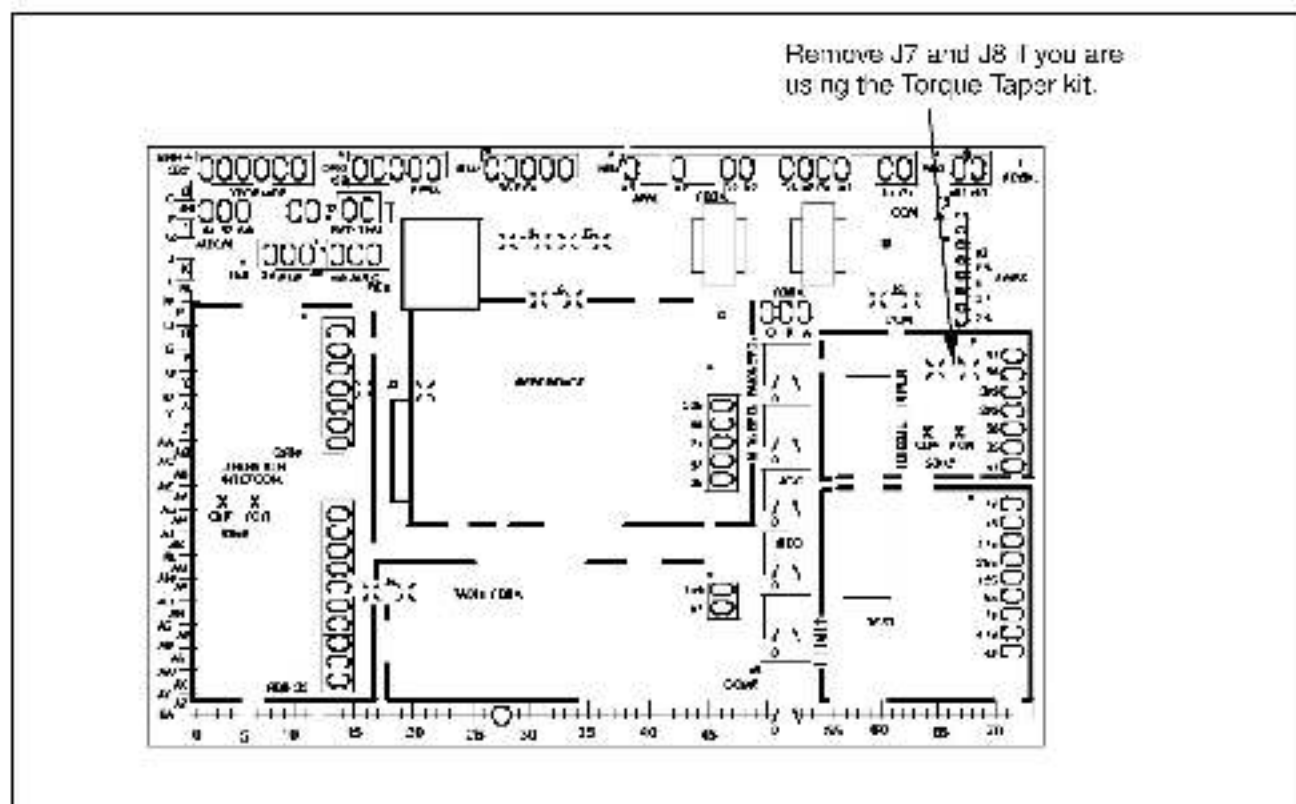

Figure 2 - Regulator Module Jumper Locations
- Step 3. Remove jumpers J7 and J8 on the Regulator module. See figure 2.